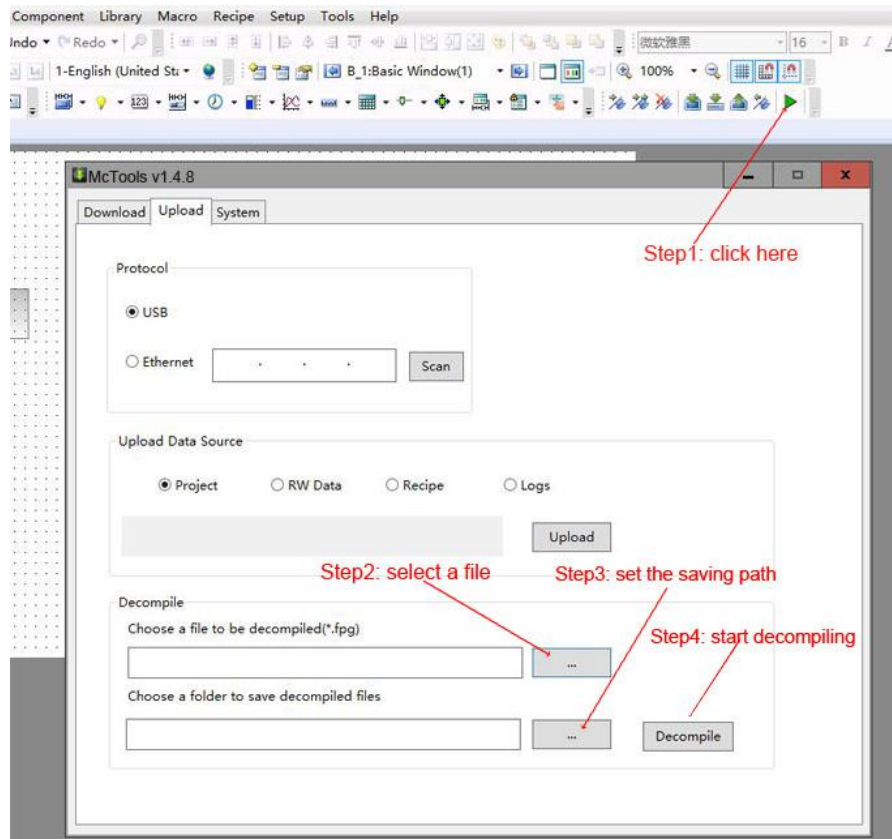

Fig. 17
① Firstly, click the tool button "Decompile", select the package fpg file, set the project saving path, and click the "Decompile" button, as shown in Fig. 17.